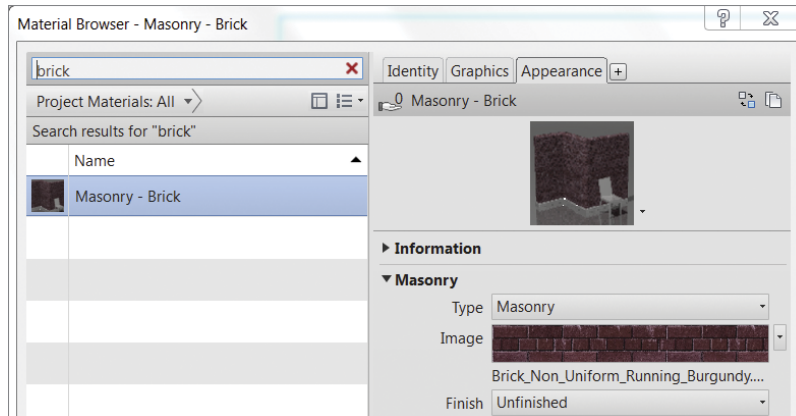

FIGURE 9.2 The Appearance tab and the swap icon
4. Now click the **Appearance** tab and you'll see a small rendered preview of the brick material (Figure 9.2). Below this preview are properties that affect the way this material looks in renderings. Above the preview image are buttons related to the material asset. Click the icon with arrows that allows you to replace the asset with a different material map.